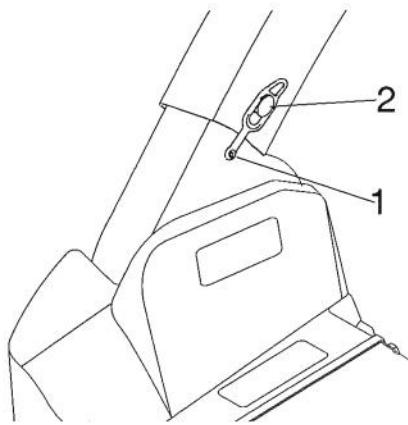

**Figure 22**
4. Slide the bag frame hook onto the retaining bracket (Fig. 22).